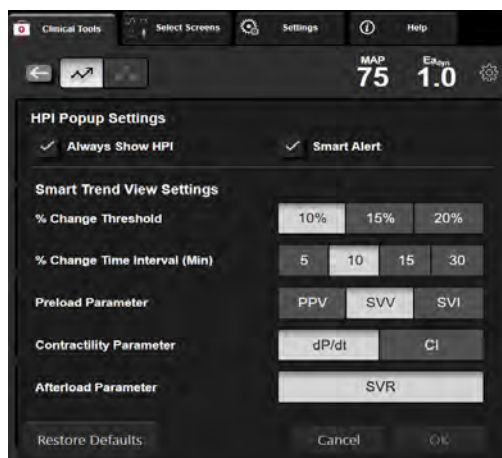

Figure 14-9 HPI secondary screen – smart trend view settings
- 3 Disable the **Always Show HPI** option button. See figure 14-9 on page 255.